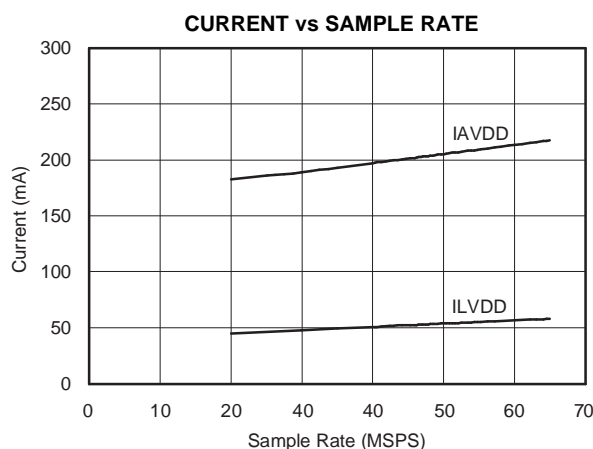

Figure 29.
- Deleted *Supply* from title of Figure 29. .... 18